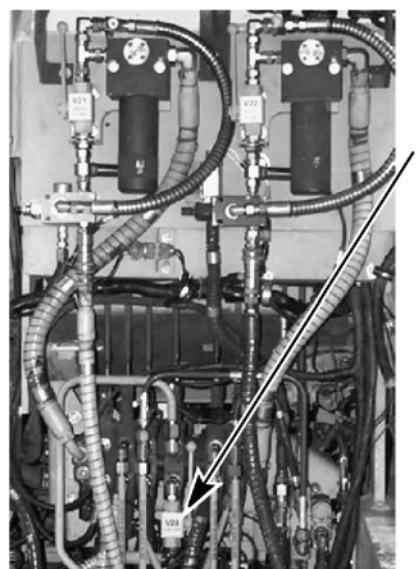

Figure 12. DCV Bank
- Disable ejector by manually closing the ejector inhibit ball valve V23 (Figure 12, item 1) on the DCV bank.